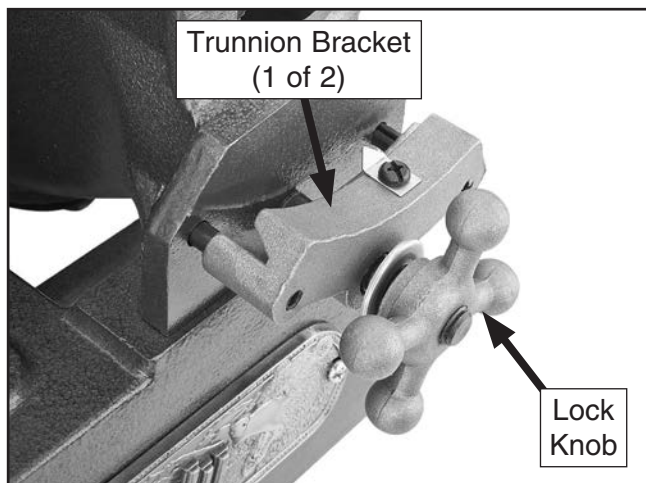

Figure 18. Lock knob and trunnion bracket positioned to receive the table trunnion.
8. Loosen the sanding disc table lock knobs, then move the trunnion brackets away from the lower disc guard, as shown in **Figure 18**.